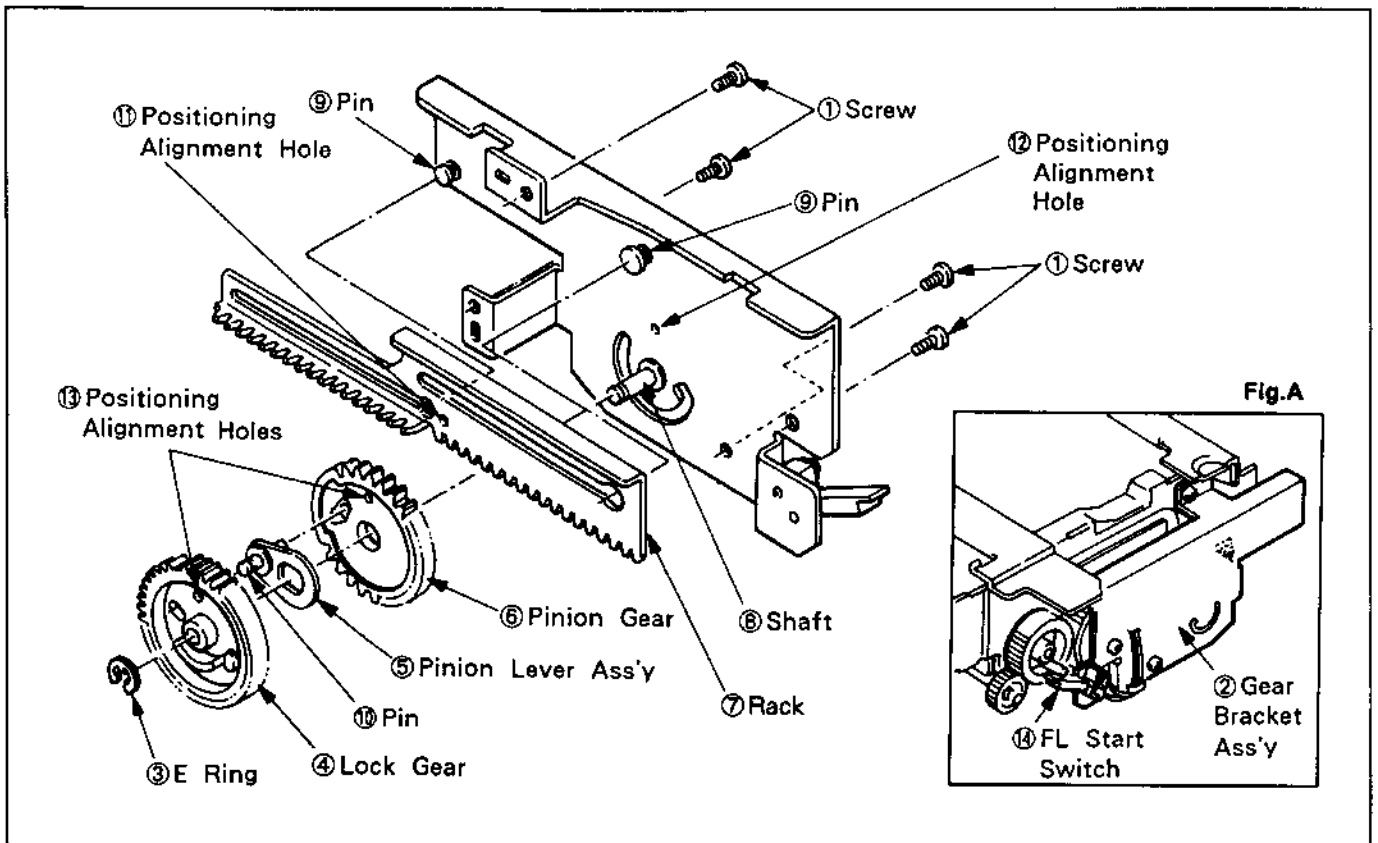

Fig. 2-2-2. Gear Bracket Ass'y
2-2-2. GEAR BRACKET ASS'Y (See Fig. 2-2-2.)
Also align the positioning alignment holes ⑯ of PINION GEAR and LOCK GEAR with the positioning alignment hole ⑰ of GEAR BRACKET by referring to Fig. 2-2-2. After mounting them, check to be sure that FL START SWITCH ⑱ is in the ON state shown in Fig. A.